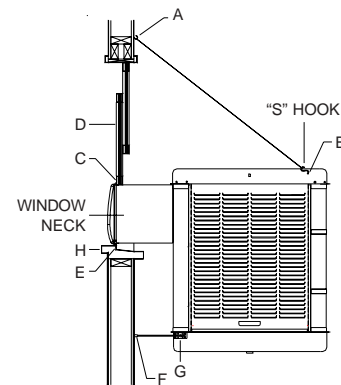

FIG. 1
- **Screw chain hooks into window facing.** Position the two chain hooks above the neck of the cooler a distance equal to the width of the cooler apart (A-Fig. 1). Hook one hanger chain in each hook and then one “S” hook in the other end of each chain. **NOTE:** Chain hooks supplied with this mounting kit have wood screw threads for wood walls. Concrete, brick walls or concrete blocks require sufficiently strong wing nuts or anchors with mating hooks.
- **Position cooler in window.** Position neck of cooler so that bottom of neck flange rests on window sill and flange (E-Fig. 1) is snug against edge of sill (H-Fig. 1). With cooler in position, hook the “S” hooks into the holes of the top panel near the back of the cooler (B-Fig. 1).
- **Place window behind retainer strip.** Raise back of cooler so that the window (D-Fig. 1) may be brought down behind top of panel retainer strip (C-Fig. 1).
- **Adjust house legs.** Pull out house legs so that the rubber bumpers rest against house siding (F-Fig. 1). Tighten screw in retaining collar. (G-Fig. 1).